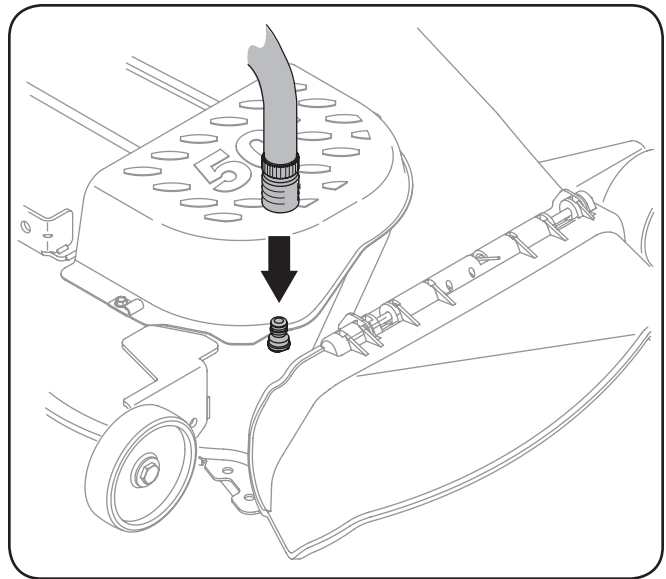

Figure 6-3
4. Attach the hose coupler to the water port on your deck's surface. See Figure 6-3.